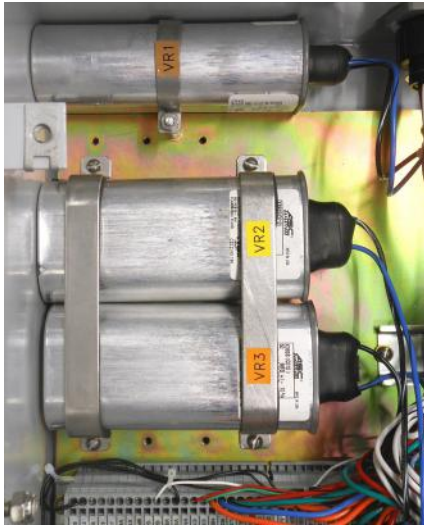

Figure 12. Multi-phase motor capacitor provisions.
9. If the motor capacitors were installed in the General Electric control box, they may remain there or can be moved into the CL-7 control box as shown in Figures 12 and 13. If they will not be moved into the new control box, skip the steps regarding the installation of the motor capacitor.